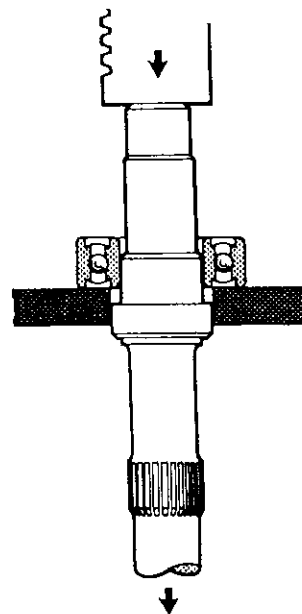

Figure 3.8
15. Support drive shaft bearing in arbor and press out shaft from bearing as shown in Figure 3.8.